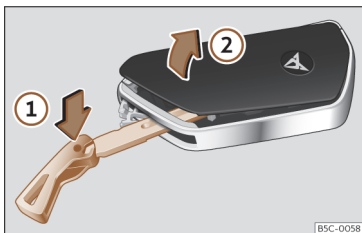

Fig. 72 Vehicle key: open the battery compartment cover.
- Insert the key blade into the slot >>> Fig. 72, press it in the direction of arrow ① and detach the cover by levering it ②.